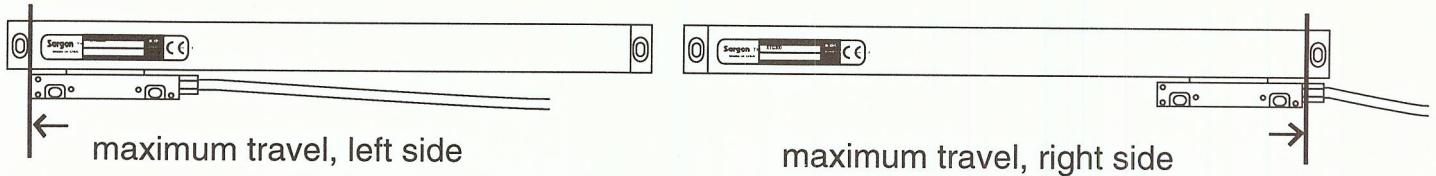

figure 5. maximum miniscale travel
- After installation, verify that it is not possible to overtravel the miniscale. See Figure 5.
- d. Release the table lock and move the X axis table to its two extreme positions while monitoring the encoder box travel. VERIFY THAT THE MINISCALE CANNOT BE OVERTRAVELED! See Figure 5.
VERIFY THAT TBE MINISCALE CANNOT BE OVERTRAVELED. See Figure 5.